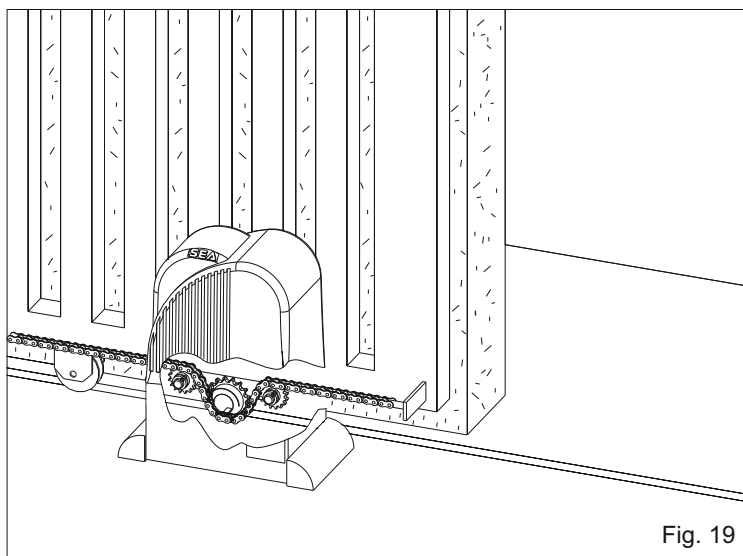
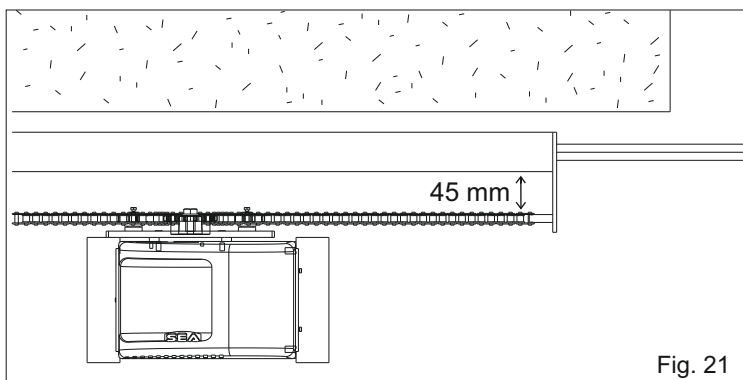
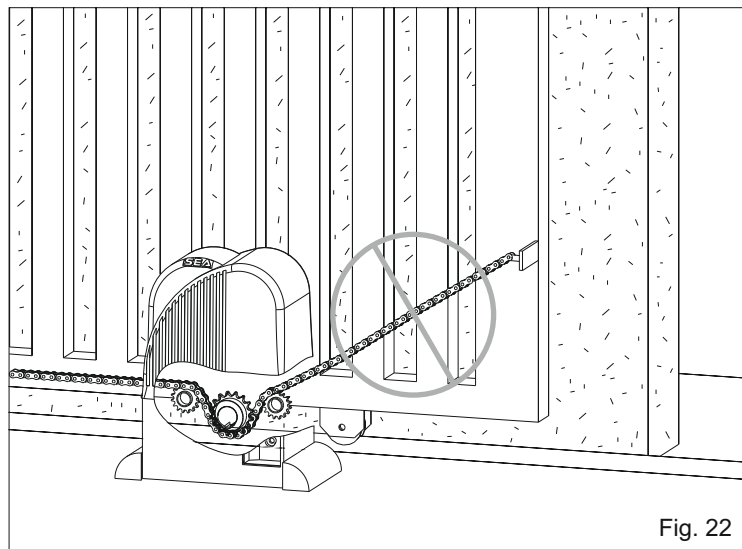

Fig. 19
Fig. 21
Fig. 22
**Notice: the holes for the chain tensioner and so the chain itself must be to a minimum distance of 45 mm from the gate (Fig. 21).**
The chain must be always in line both vertically (Fig. 19) and horizontally (Fig. 21), if not perfectly aligned (Fig. 22 and 23) it may derail from the pinion group or the motor reducer risks a greater effort not allowing the right operating of the system.